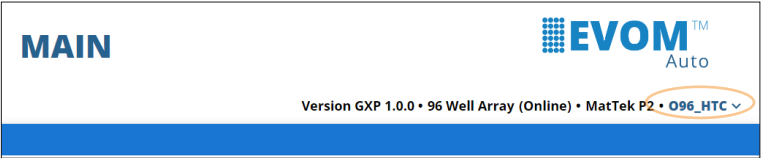
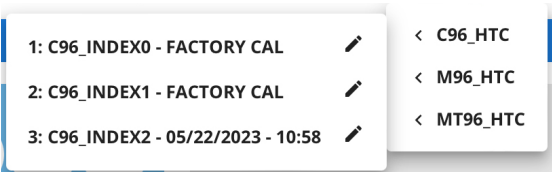

Fig. 54—Click on the brand in the upper right corner under the EVOM™ Auto logo to access the plate brand and plate profile menu.
Fig. 55—The plate brand and profile menu displays. In offline mode, you can see all the plate brand options. In online mode, only the available option displays.
1. To select the desired brand and plate profile, click on the brand name under the EVOM™ Auto logo in the upper right corner of the Main window (Fig. 54). A dropdown menu displays (Fig. 55).